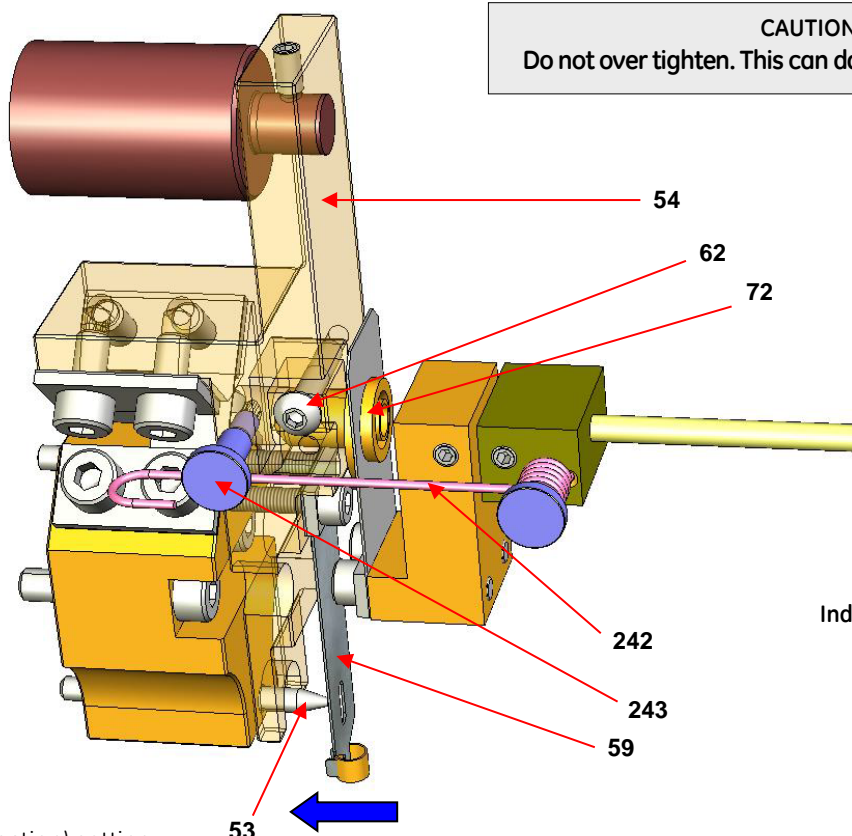

Figure 15
- d. Look through the side orifice and verify that the screw (62) coupling end of the beam (54) is loose and that the spring arm (242) is disengaged from the pin (243). Through the 3/4 " NPT hole at the bottom of the case, push the flexure (59) from left to right with your finger to verify it is possible to move the beam (54). The value displayed should vary accordingly. **Pin (72) must rotate freely inside the coupling end of the beam.**
- e. Look at the mechanism through the lateral orifice, and index the oval hole of the flexure towards the special conical ended pin (53) by bending the flexure (59) toward the case front (see Figure 15). The value read on the LCD must be between -5% and +5%.